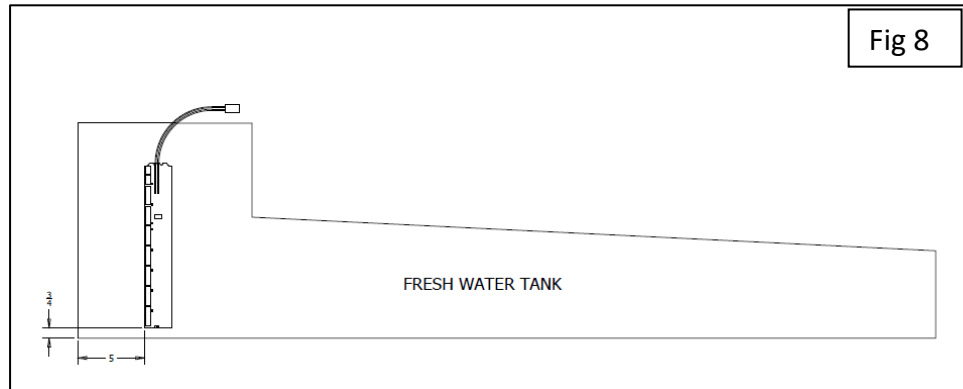

Fig 8
7. Install SeeLevel Sensor to the side of the freshwater tank. (Figure 8)